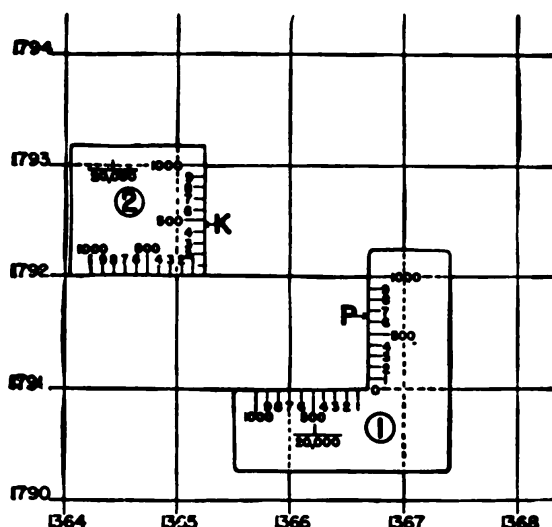

FIGURE 151.—To plot the position of a point with a coordinate scale on a terrain map (1: 20,000 scale) having a 1,000-yard grid. (Not reproduced to scale.)
Q. Explain in detail how to read the coordinates of any point on a gridded map. *A.* The coordinates of any square in the grid system are the X and Y coordinates of the lower left-hand (southwest) corner of the square. The coordinates of the lower left-hand square in figure 151 are 1,364,000–1,790,000 but are usually written 1364–1790, it being understood that each number represents thousands of yards. These coordinates also locate to the nearest thousand yards any point in the lower left-hand square of figure 151. To locate a point more closely, assume that each side of the square in question is divided into 10 equal parts, each of which represents 100 yards. Then the coordinates of the center of the lower left-hand square would be expressed as 1364.5–1790.5, which locates the center to the nearest hundred yards in each direction. The method may be further refined to read to the nearest 10 yards.
Q. What is a coordinate scale? Explain its use. *A.* A coordinate scale is a right-angled ruler made of thin metal, celluloid, or other material with scales on it equal in length to the grid interval of the map being used (fig. 151). To plot any point on the map, for instance the point P of which the coordinates are given as 66.70–91.65, place the coordinate scale on the map in position ① as shown in figure 151. The position of P can be marked at once with a pin or sharp pencil. It should be noted here that the first two numbers of the coordinate expression 1366.70–1791.65 have been dropped because they are common to all points in the section of map under consideration. The process of reading the coordinates of a point appearing on the map is the reverse of the method given for plotting a point on the map.